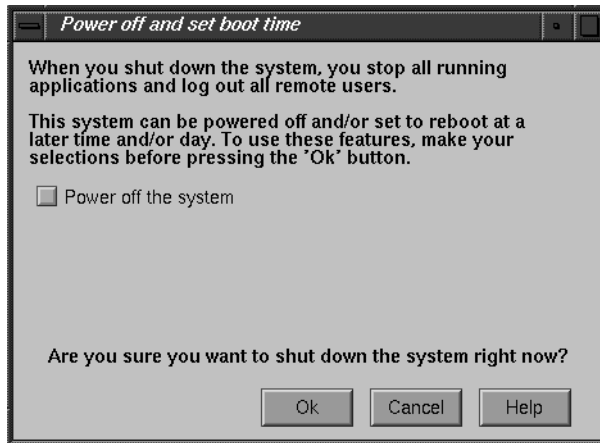
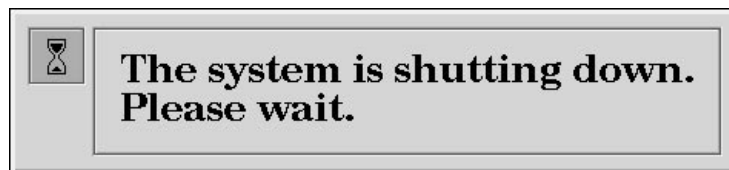

Figure 2-33 System Shutdown Caution Message
Figure 2-34 System Shutdown Notifier
After a few seconds you see the notifier shown in Figure 2-33.
The screen clears and you see the notifier shown in Figure 2-34. After a few seconds, the system powers off.
- At the notifier shown in Figure 2-33, click *OK*. The screen clears and you see the notifier shown in Figure 2-34.